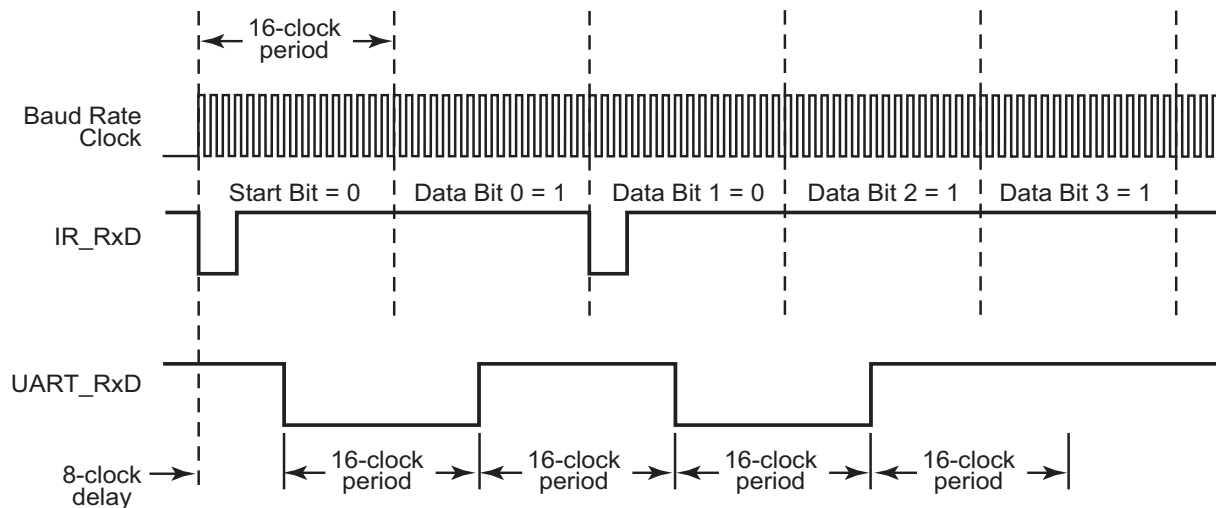

Figure 39. Infrared Data Reception
period. If the data to be received is a logical 0, a delayed Low (0) pulse is output on RxD. Data transmission is displayed in Figure 39.